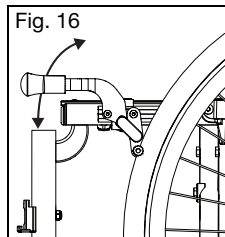

Fig. 16
- Always test new wheel lock positioning on a flat level surface. Once wheel locks are engaged, the wheels should not slip or move. If the wheel locks are not fitted properly readjust wheel lock again. See Fig. 16.